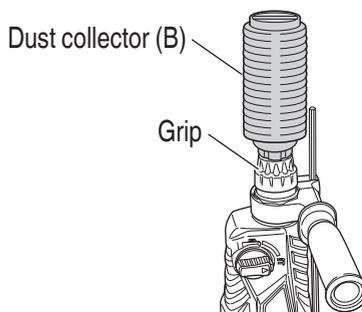

Fig. 4
5. Installation of dust cup or dust collector (B) (Optional accessories) (**Fig. 3**, **Fig. 4**)
When using dust collector (B), insert dust collector (B) from the tip of the bit by aligning it to the groove on the grip (**Fig. 4**).